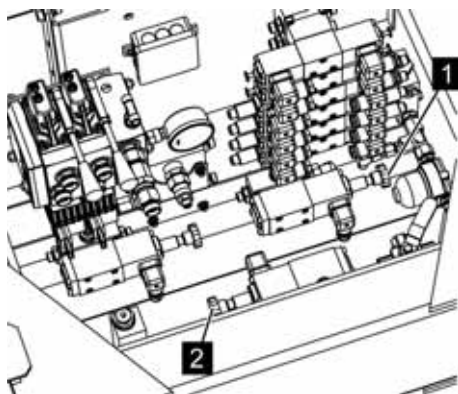

Fig. 119: Shuttle valve
7. ➔ After service operation, unlock the shuttle valves (Fig. 119/1 and 2).
- Make sure that for normal operation, the shuttle valves (Fig. 119/1 and 2) are completely unlocked.